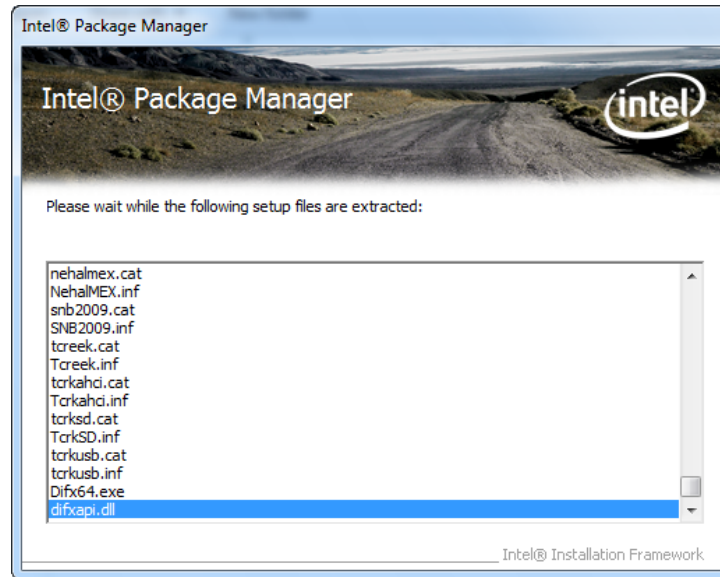

Figure 5-2: Chipset Driver Screen
- Step 4:** The setup files are extracted as shown in **Figure 5-2**.